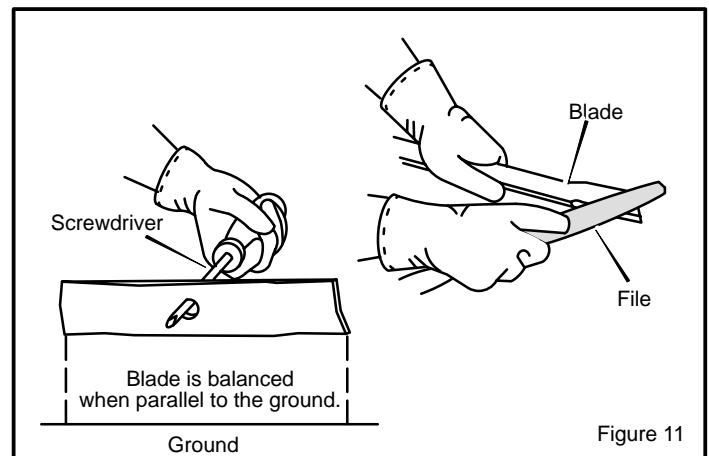

Figure 11
4. Sharpen the **blade** with a **file** (Figure 11). Make sure you keep the original bevel angle.
5. Make sure the **blade** is balanced. Use a **screwdriver** and hold the **blade** parallel to the **ground** (Figure 11). A **blade** that is balanced will stay parallel to the **ground**. If the **blade** is not balanced, the heavy end will rotate toward the **ground**. Sharpen the heavy end until the **blade** is balanced.